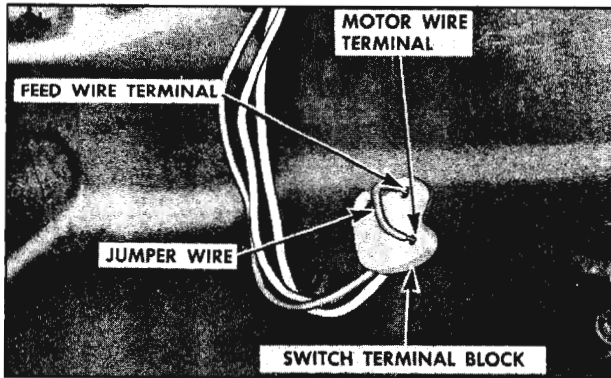

Fig. 16-279 Checking Window Control Switch
1. Insert one end of a #12 gauge jumper wire to the switch feed terminal and the other end to one of the motor lead terminals in the switch block. Repeat this check on the remaining motor lead terminal. (Fig. 16-279)
one of the motor lead terminals in the switch block. (Fig. 16-279)